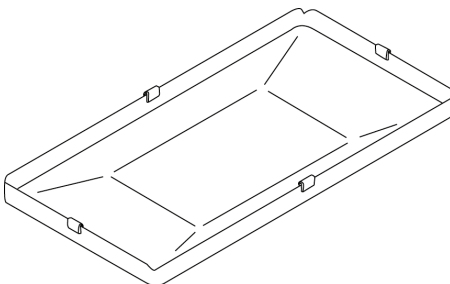

FIGURE 14
Step 7. Divide each adhesive bead strip in half. (Adhesive bead strips are in the clear self-closing bag). Place strips on the edge of the grille as shown in figure 14. Reinstall the grill on the speaker.
Step 13. Divide each adhesive bead strip in half. (Adhesive bead strips are in the clear self-closing bag). Place strips on the edge of the grille as shown in figure 14 on page 15. Reinstall the grille on the speaker.